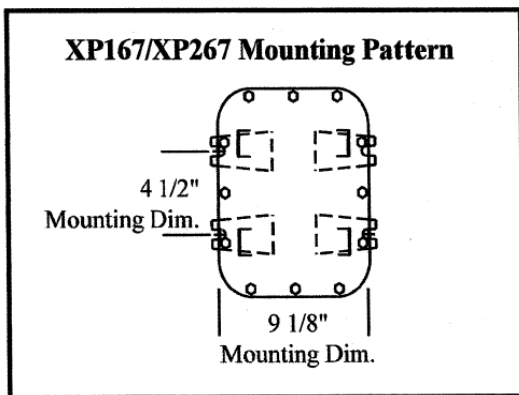

Figure 12
1. Use pattern (Figure 12) for mounting power supply on your machine. Mount power supply following instructions included with your power supply.
1. Use pattern Figure 12 for mounting power supply on your machine. Mount power supply following instructions included with your power supply.